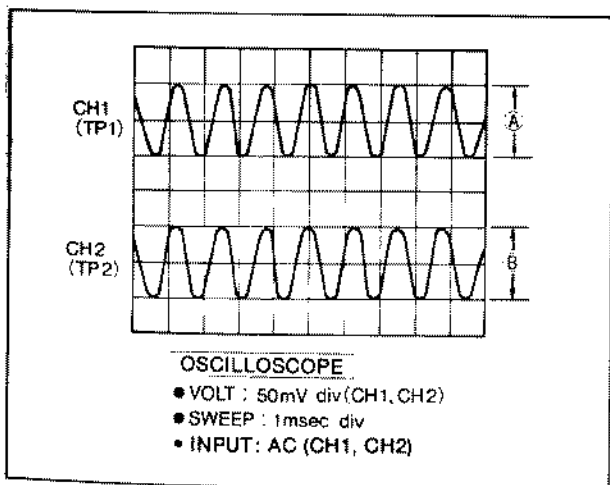

Fig. E20
- Adjust VR22057 (T. Gain) on Servo C.B.A. so that the waveform (A) and (B) is at the same level as shown in Fig. E20.